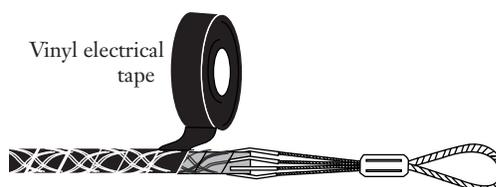

Figure 29
5.19 Starting at least 2.5 cm (1.0 in.) below the mesh on the cable jacket, wrap vinyl tape TIGHTLY to the top of the grip. The mesh's imprint should show clearly through the tape (Figure 29).